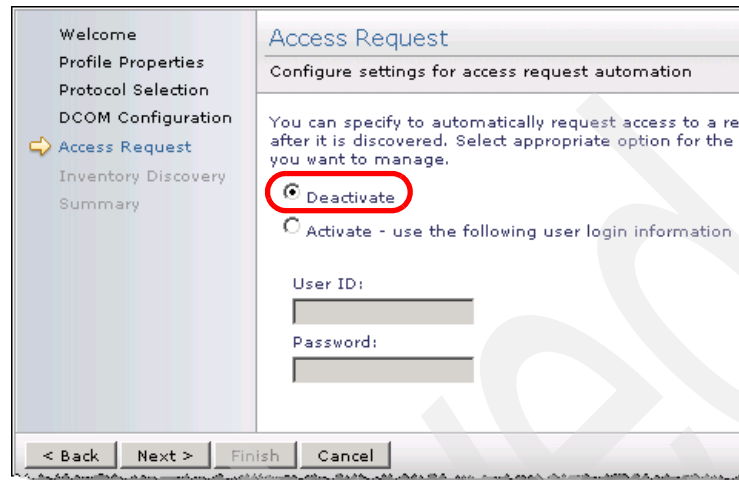

Figure 9-13 Advanced Discovery Wizard: Access Request
5. Because the Smart Works gateway is not required for credential information, select **Deactivate**, and click **Next** as shown in Figure 9-13.